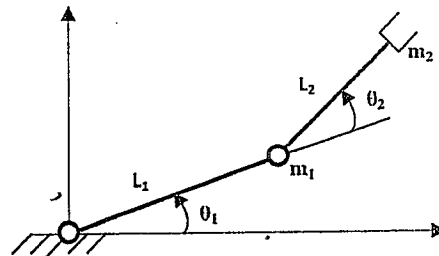

Fig. 2
5. Determine the dynamic equations for the two-link manipulator shown in Fig. 2. Assume that whole mass of the link can be considered as a point mass located at the outermost end of each link. The masses are m_1 and m_2 and the link lengths are L_1 and L_2 . [16]